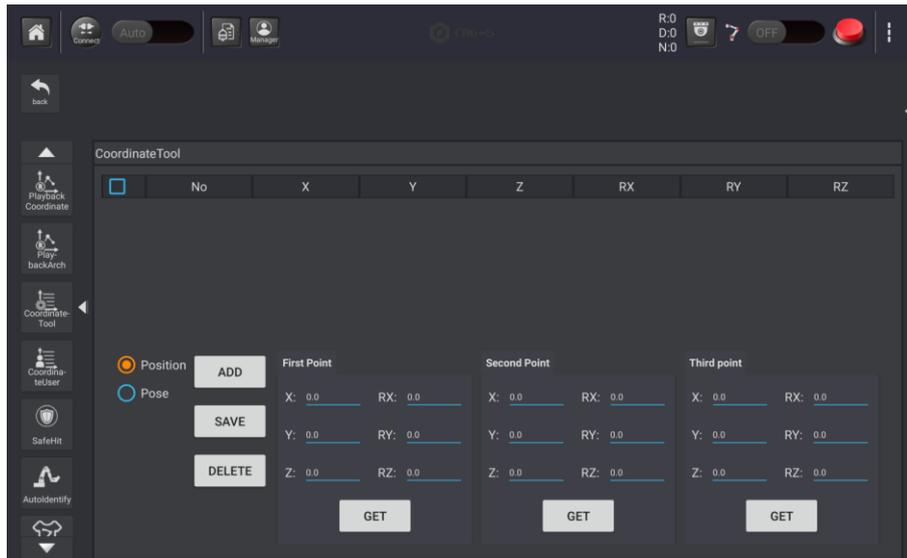

Figure 5.12 Tool Coordinate page
- Step 2** Click **Tool coordinate** on the **Setting** page. As shown Figure 5.12.